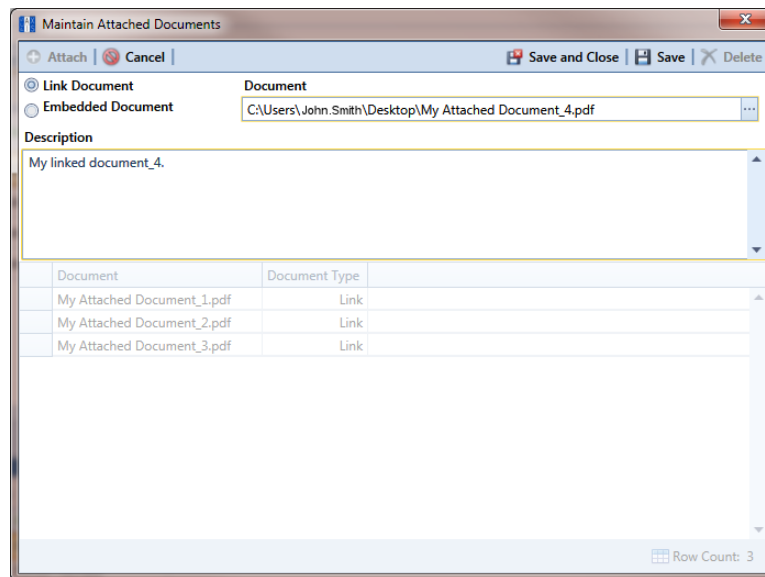

Figure 4-26. Maintain Attached Documents
- 6 When the *Maintain Attached Documents* dialog box opens, click  **Attach** and then select one of the following options (Figure 4-26, page 162):
- 7 If you selected *Link Document* in **step 6** and want to link to a file on a local computer or company network, follow these steps (Figure 4-26):